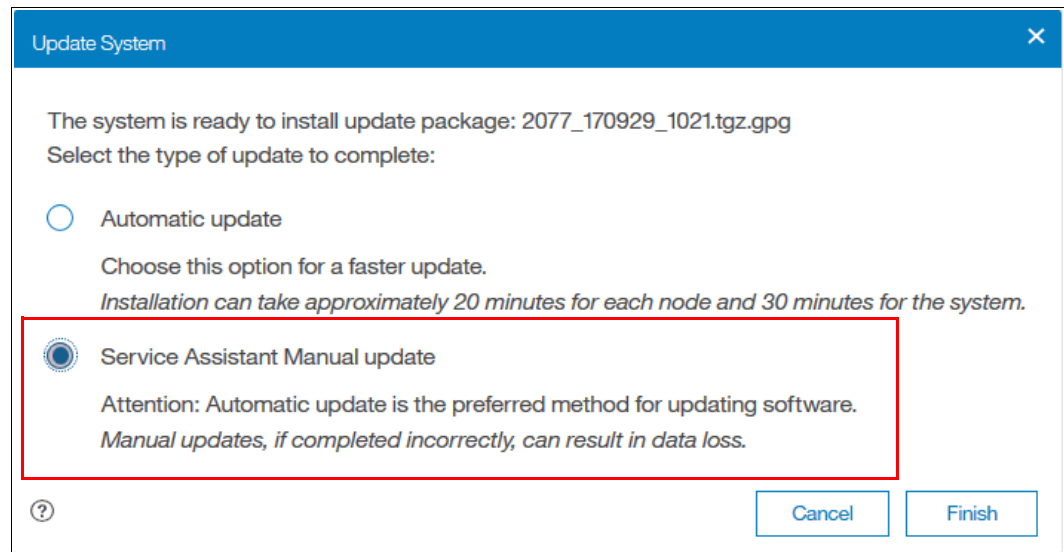

Figure 12-45 Manual update selection
3. Select **Service Assistant Manual update** and click **Finish**, as shown in Figure 12-45.